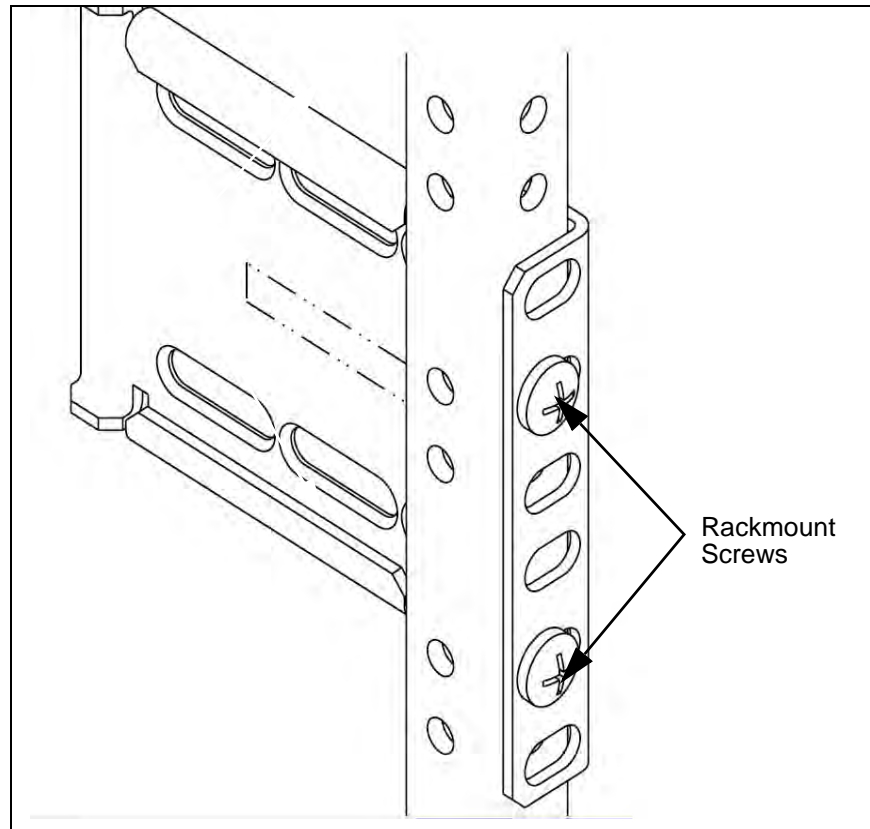

Figure 2.4 - Rear Bracket on Rack (Left)
3. Attach the rear brackets to the rear rack posts using two rackmount screws (Figure 2.4).